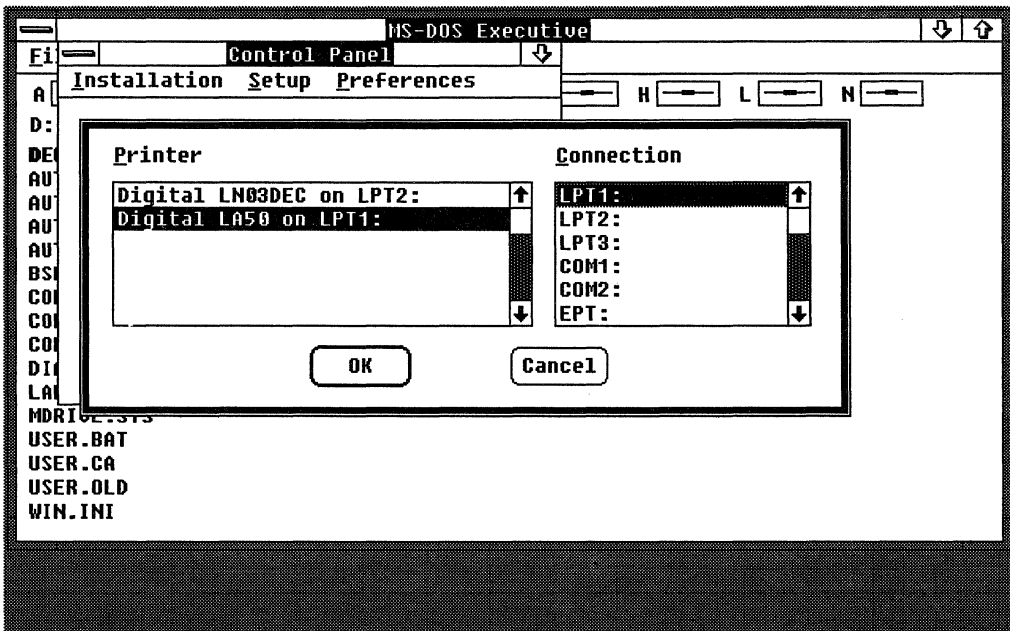

Figure 2-4 Connection Dialog Box
1. Select the **Connection** command from the Setup menu. MS-Windows displays the Connection dialog box, as shown in Figure 2-4.